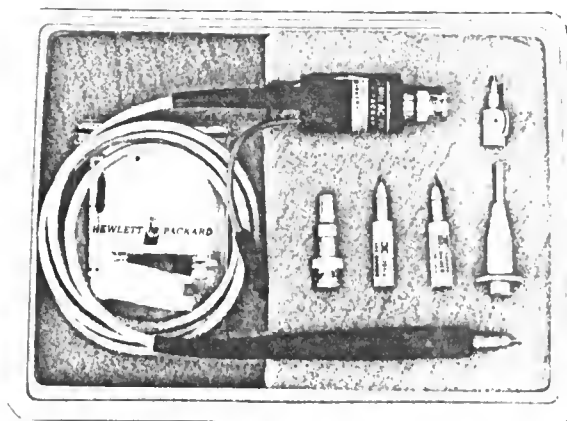

Figure 1. Model 1121A 500 MHz AC Probe
2. The Hewlett-Packard Model 1121A 500 MHz AC Probe (Figure 1) is a 1:1 active voltage probe that provides low input capacitance, high input impedance, high current gain and wide bandwidth. The probe has a probe-tip impedance of 100 kilohms shunted by less than 3 picofarads. When used with the Models 10241A or 10243A Voltage dividers the input shunt capacitance is less than 1 picofarad.